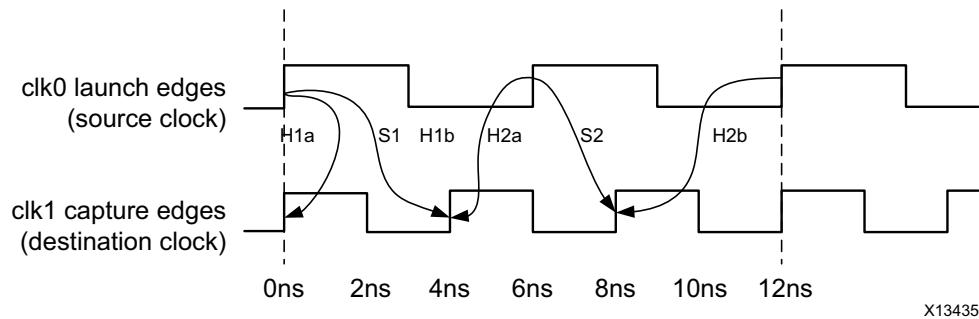

Figure 5-4: Hold Relationships per Setup Relationship
- The data sent by the setup launch edge cannot be captured by the active edge before the setup capture edge (`H1a` and `H2a` corresponding to setup edges `S1` and `S2` respectively in Figure 5-4, Hold Relationships per Setup Relationship).
- The data sent by the next active source clock edge after the setup launch edge cannot be captured by the setup capture edge (`H2a` and `H2b` corresponding to setup edges `S1` and `S2` respectively in Figure 5-4, Hold Relationships per Setup Relationship).